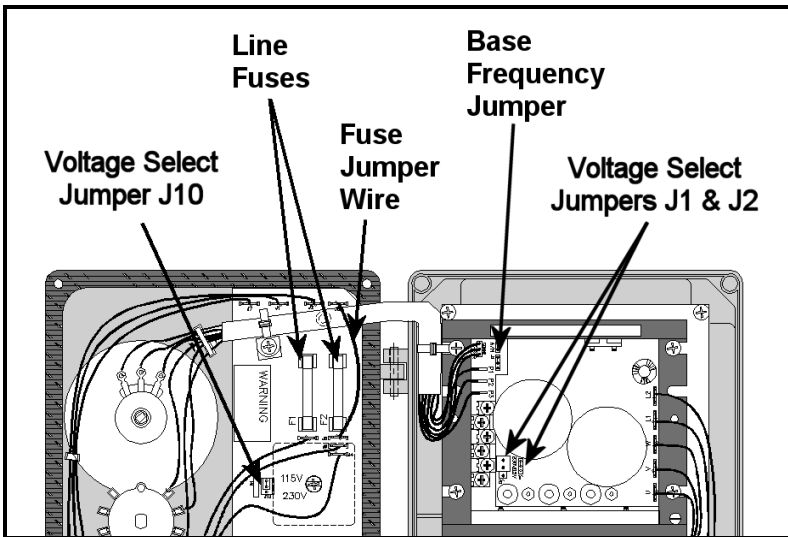

Figure 4 - Inside of control, showing location of jumpers and fuses.
**AC LINE VOLTAGE SELECTOR JUMPERS** – There are three voltage selector jumpers that must be repositioned if the input line voltage is 230 VAC instead of 115 VAC. If the control is to be operated from a 230 VAC power supply, pull out the voltage selector jumpers J1, J2, and J10 from their “115V” positions and reinsert them into their “230V” positions. See Figure 4 for the locations of the jumpers.